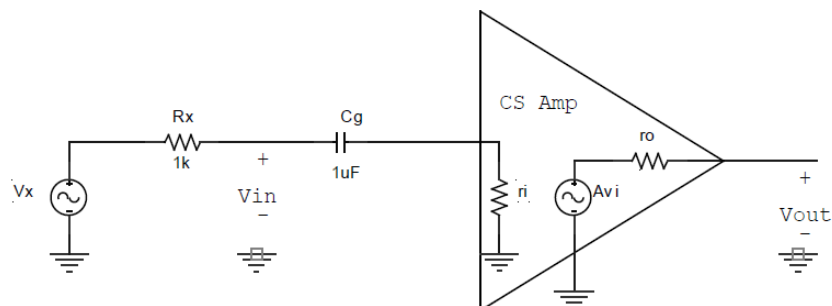

Figure 8-6 Input Impedance Measurement Setup
- Measure the input impedance r_i . To do this, use the setup shown in the circuit diagram in Figure 8-6. Use the original input signal from the function generator (100mVp-p @ 1kHz).